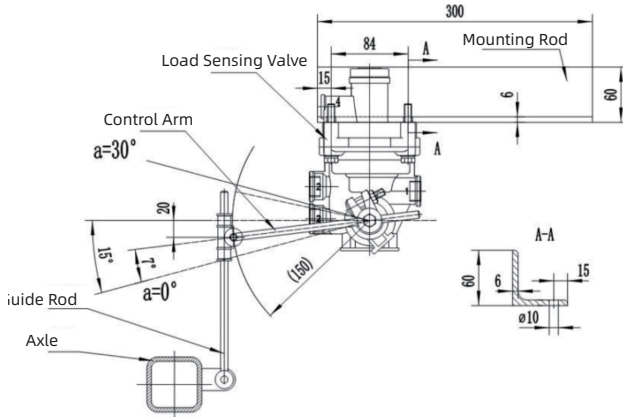

Fig. 31 LSV Installation Schematic
(1) For vehicles with mixed air suspension and mechanical leaf spring suspension, a load sensing valve replaces the height control valve in the pneumatic control system. The LSV must be installed on the mechanical suspension axle closest to the air suspension during installation.
(2) The installation method of the LSV to the axle and frame is basically the same as that of the height control valve, as shown in Fig. 31. The angle of the LSV control arm depends on the vehicle load distribution: typically a 7° to 10° downward angle from the horizontal under unladen conditions.